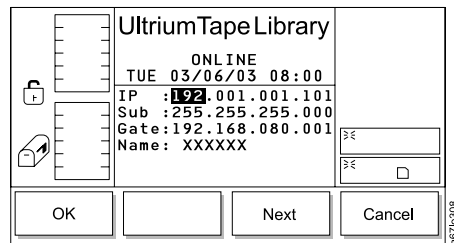

Figure 205. Confirm Changes Dialog
6. Verify that the new settings are correct on the display, then press the button below the **Next** softkey until the Confirm Changes Dialog displays (see Figure 205).